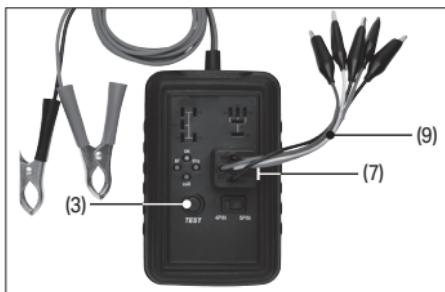

Fig.4
2. Plug the relay adaptor (9) into 'SOCKET 3' (7). (Fig.4)
4. Press the 'TEST' button (3) to start the test.